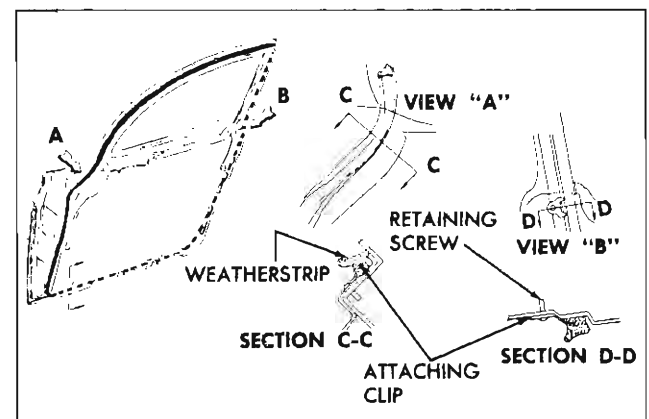

Fig. 40—Two Prong Weatherstrip Attaching Clip
2. Some weatherstrips may be additionally secured by a two-prong clip, attached to lock and/or hinge pillar of door at belt line. This clip is attached by a single screw and must be removed prior to removal of weatherstrip. When clip is reinstalled, make sure both prongs are positioned over wire located in center of weatherstrip. Figure 40 shows clips attached to a front door weatherstrip but is typical of rear doors. This clip can be satisfactorily used to retain almost any area of a rear door weatherstrip that proves troublesome (fig. 40).
6. Press weatherstrip into place at cemented areas and, if applicable, reinstall weatherstrip two-prong attaching clip. Make sure prongs of clip are inserted over wire of weatherstrip (fig. 40).